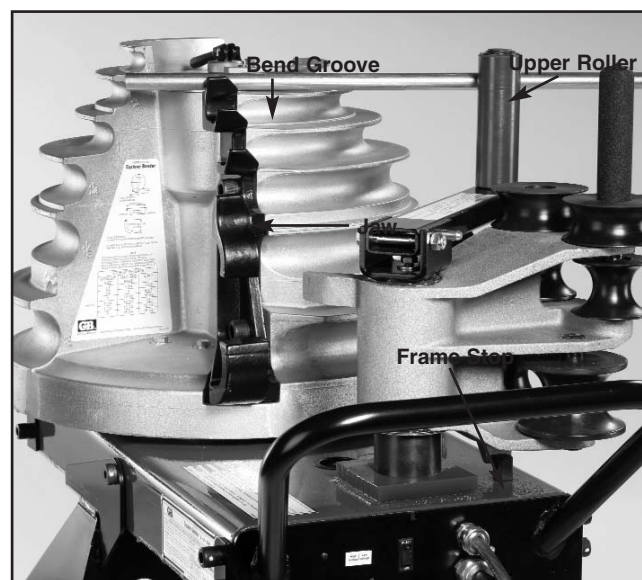

Figure 4. Bending ½" - 1"
5. The upper urethane roller and support arm (See Figure 4) is used for bending ½" through 1" conduit. One of the top three shoe grooves will be used, depending on conduit size.